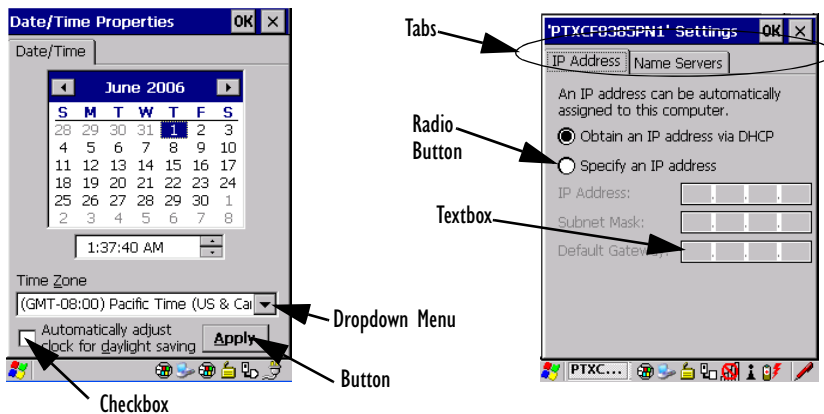

Figure 4.8 Dialog Boxes
A dialog box (like the samples in Figure 4.8) appears when you need to make selections and enter further information.
**Radio buttons:** These buttons allow you to choose from a number of options. For example, in the sample screen in Figure 4.8 on page 73 you can choose to *Obtain an IP address via DHCP* or *Specify an IP address*. Press the [TAB] key to highlight a radio button option, and then select a radio button by pressing the arrow keys to highlight the appropriate option.